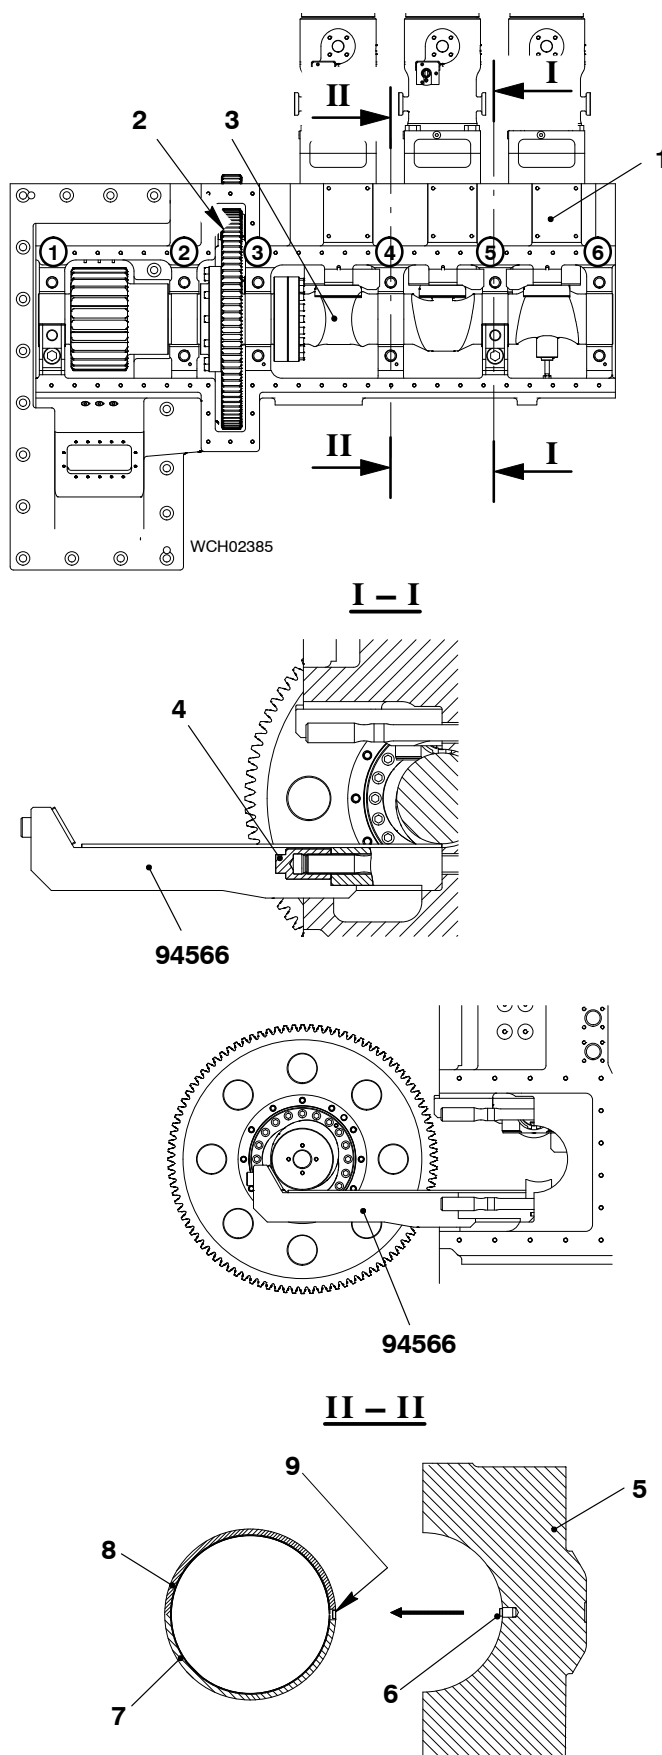
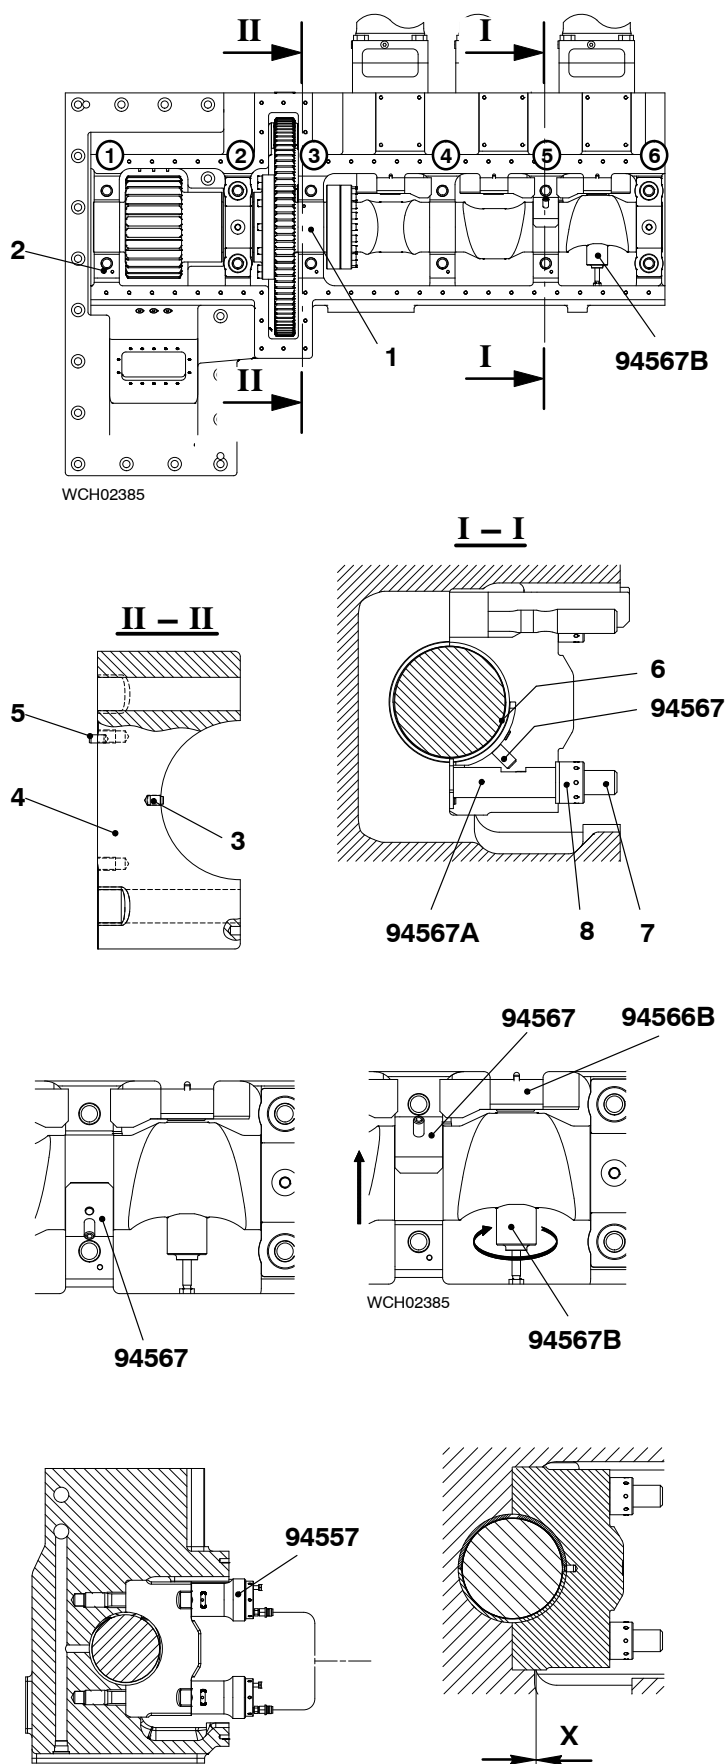

Fig. 4
Fig. 5
- 1) Put the two supports (94566) in the positions at No.1 and No.5 (Fig. 4).
- 2) On the two supports (94566), tighten the nuts (4).
- 6) Carefully move the camshaft (3, Fig. 4) and the gear wheel (2) on to the two supports (94566).
- 7) Make sure that the camshaft (3) and gear wheel (2) do not move.
- 7) Put the screwjack (94567B, Fig. 5) in position.
- 9) Put the assembly template (94567A) on the bottom elastic bolt (7).
- 10) Put the round nut (8) on the elastic bolt (7). Tighten the round nut with your hand.
- 11) Put the top bearing shell (6) in position on the camshaft.
- 13) Use the assembly template (94567) to turn the bearing shells (7, 8 Fig. 4) 90° upwards.
- 17) Make sure that the pin (3, Fig. 5) is in the bearing cover (4).
- 18) Attach the bearing cover (4).
- 19) Put the round nuts (8) on the elastic bolts (7). Tighten the round nuts with your hand.
- 22) Put the bearing cover (4) that has the dowel pin (5) on to position No. 3.
- 23) Install the tool (94557) on to the elastic bolts (7) (refer to 9403-4).
- 24) Tighten the round nuts (8) to the value specified in 9403-4.
- 25) Make sure that there is no clearance at (X).